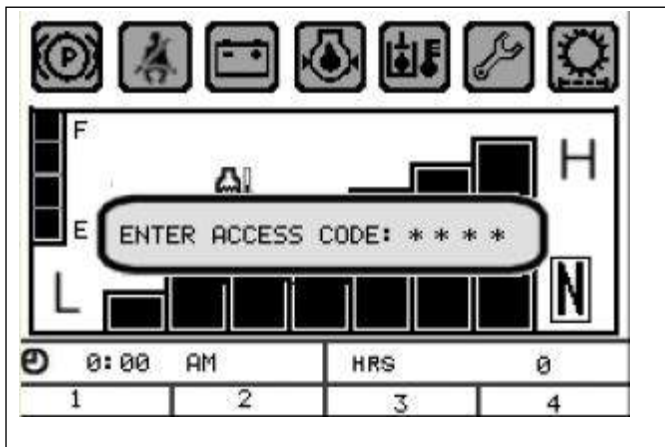

Figure 4-24: Access Code Screen
5. When prompted for the access code enter 4 2 3 1. **See Figure 4-24.**